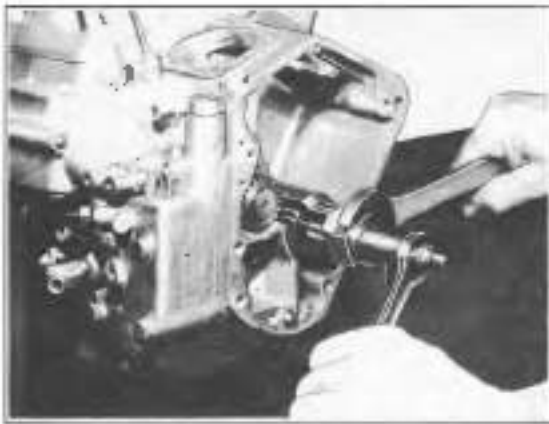

Figure 3-30. Pulling Pinion Gear
1. Remove oil screen cap (1), O-ring (2), screen spring (3) and screen (4).
2. Remove two circuit breaker cover screws (5), cover (6) and gasket (7) from gearcase cover (17).
3. Remove circuit breaker cam assembly bolt (8). Remove screws (9, 9A or 9B), lockwashers and washers (10) or retainer (10A) and circuit breaker plate assembly (11).
4. Remove circuit breaker cam (12) and circuit breaker advance assembly (13).
7. Remove breather valve spacing washer (19) and breather gear (20).
8. Remove cam gear (21), spacing washer (22), and thrust washer (23).
9. Remove pinion gear shaft nut (24) which has a left-hand thread. Use Gear Shaft Nut Socket Wrench, Part No. 94555-66. Pull pinion gear (25) using Pinion Gear Puller and Installer, Part No. 98830-61 as shown in Figure 3-30. Tool has left-hand threads.
10. Remove key (26), gear shaft pinion spacer (27), oil pump pinion shaft gear (28) and key (29).
11. Use a lock ring pliers such as Snap-On No. PR129A, and remove oil pump drive gear shaft lock ring (30), drive gear (31) and drive gear key (32).